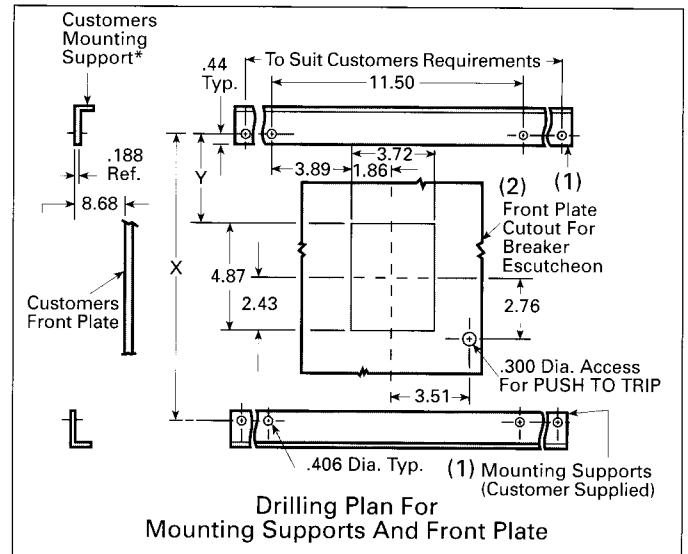

Figure 1
A. Provide suitable mounting supports **(1)** and drill holes as shown in Figure 1. (Recommended use of 1-3/8 x 7/8 x 3/16 steel angle.)